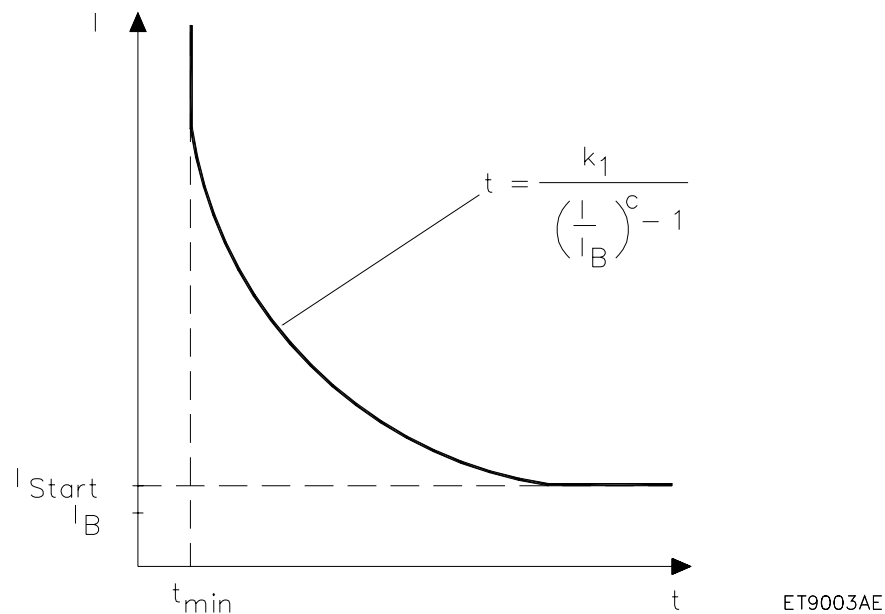

Fig. 3.5.6.1 Operating characteristic of the IDMT overcurrent function
- operating characteristics (see Fig. 3.5.6.1) according to British Standard 142: